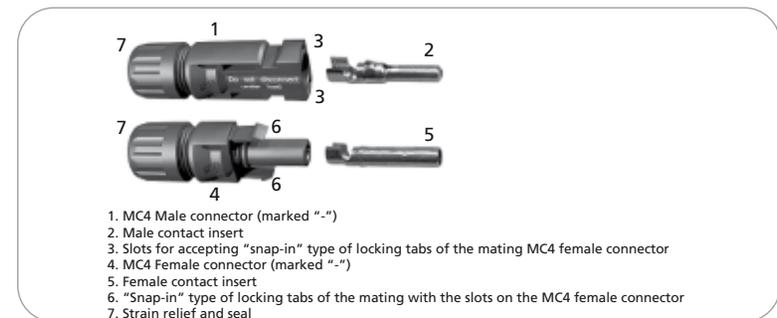

Fig. 1 . MC4 Male and Female Connectors
MC4 Connectors (Fig. 1)
In the MC4 Male Connector (1 of Fig. 1), the internal mating contact insert (2, Fig. 1) is a male pin. It has two slots (3 of Fig. 1) for insertion of the two "snap-in" type of locking tabs (6 of Fig. 1) of the MC4 Female Connector (4 of Fig. 1) for firm mating connection. This connector is marked "-".
In MC4 Female Connector (4, of Fig. 1), the internal mating contact insert (5 of Fig. 1) is a female cylindrical socket. It has two "snap-in" type of locking tabs (6 of Fig. 1) that are inserted into the two slots (3 of Fig. 1) in the MC4 Male Connector (1 of Fig. 1) for firm mating connection.
Wire is crimped to the contact inserts (2 and 5 of Fig. 1) using a special purpose crimping tool designed for MC4 connectors. After the wire has been crimped, the contact insert is required to be seated securely inside the housing and the strain relief / seal (7 of Fig. 1) is to be tightened fully to provide a water-tight seal.
Each Branch Connector has 3 branches - two on the one side & one on the other. The branches could be "male" or "female". The construction of the branches is similar to the construction of the MC4 connectors shown in Fig. 1. In a branch connector, all the 3 branches are internally connected in parallel.
4. Crimp the male and female contact inserts (2 and 5 of Fig. 1) to the bare ends of the wire with the help of special purpose crimping tool meant for the MC4 connectors.
5. Install the contact inserts inside the housing of the MC4 connectors and tighten the strain relief / seal (7 of Fig. 1) fully to ensure a watertight seal.